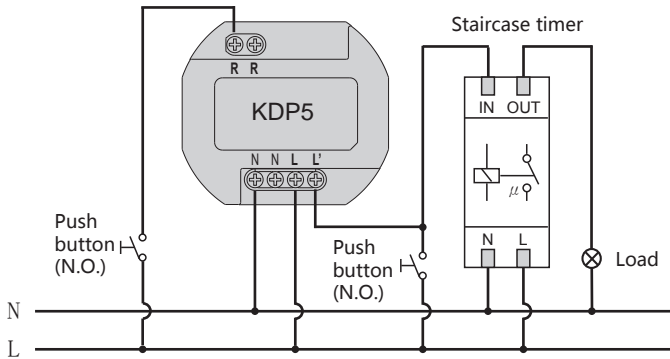
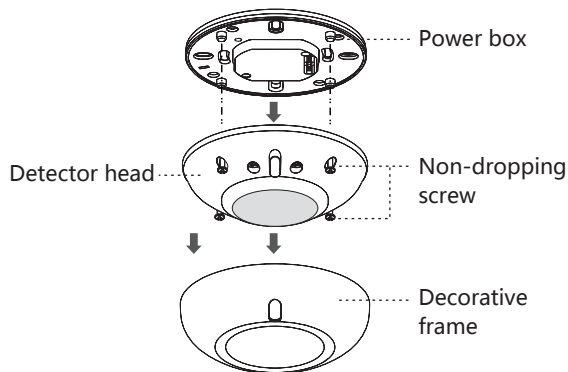

FIG.8
FIG.9
Staircase timer switch control (Time should be set to $\sqrt{1s}$, see FIG.8)
- Take off decorative frame of KDP5, then take the detector head apart from power box by unscrew its 4pcs non-dropping screws (See FIG.9).
- Fix the detector head on power box by inserting its four non-dropping screws into the corresponding screw holes, then cover up the decorative frame (See FIG.9).
- Please refer to illustration of FIG.5 - FIG.8 for correct wiring and then screw the KDP3/5 tightly.
- Refer to wiring diagrams for correct wiring connection (See FIG.5 - FIG.8). There is a square hole in the fixing plate, when you put the fixing plate into the junction box, please fit the fillister to the junction box' s protrusion (See FIG.19), then fix the detector head on the power box following FIG.9 and assemble them with the attached 4pcs nondropping screws.